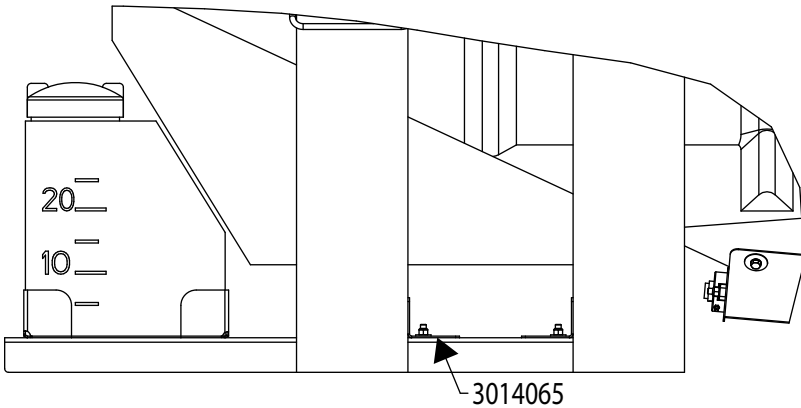

Fig. 3
- 3.** Secure spreader on support using stops (3014065) and provided hardware as shown in Fig.3.